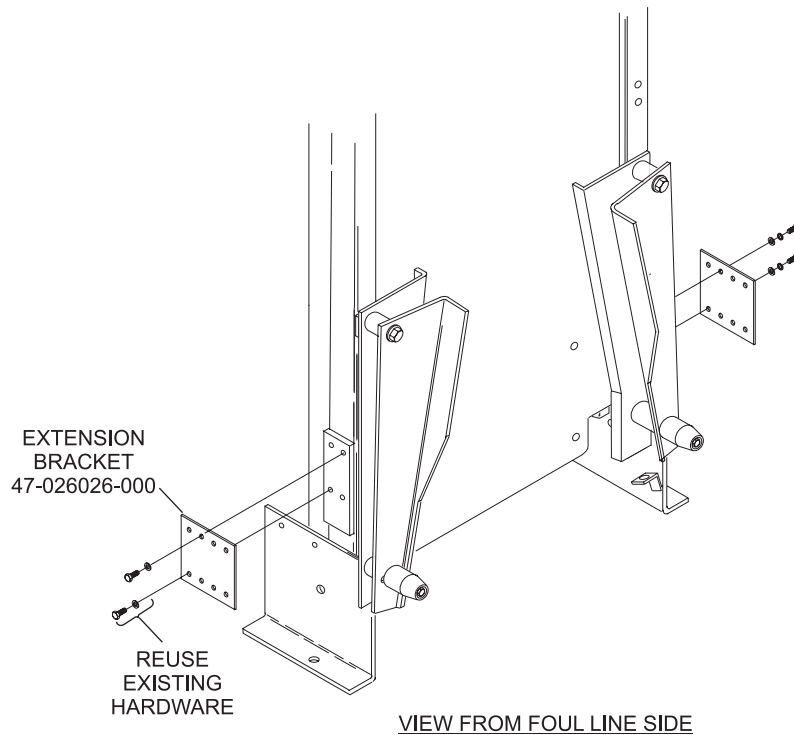

Figure 5
- Attach the extension brackets to the elevator using the existing M8 x 16 screws and flat washers. Refer to *Figure 5*.